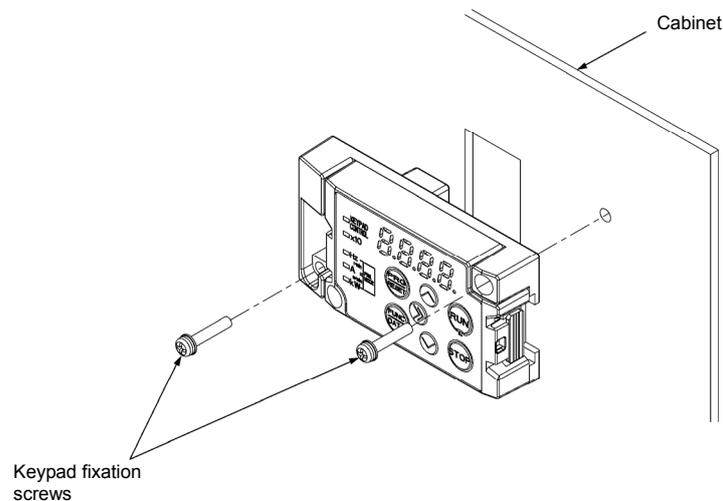

Figure 2.3-7 Attachment of the Keypad
- (4) Fix the keypad to the cabinet using 2 keypad rear cover fixation screws. (Refer to figure 2.3-7) (tightening torque: 0.7 N•m(6.2lb-in))